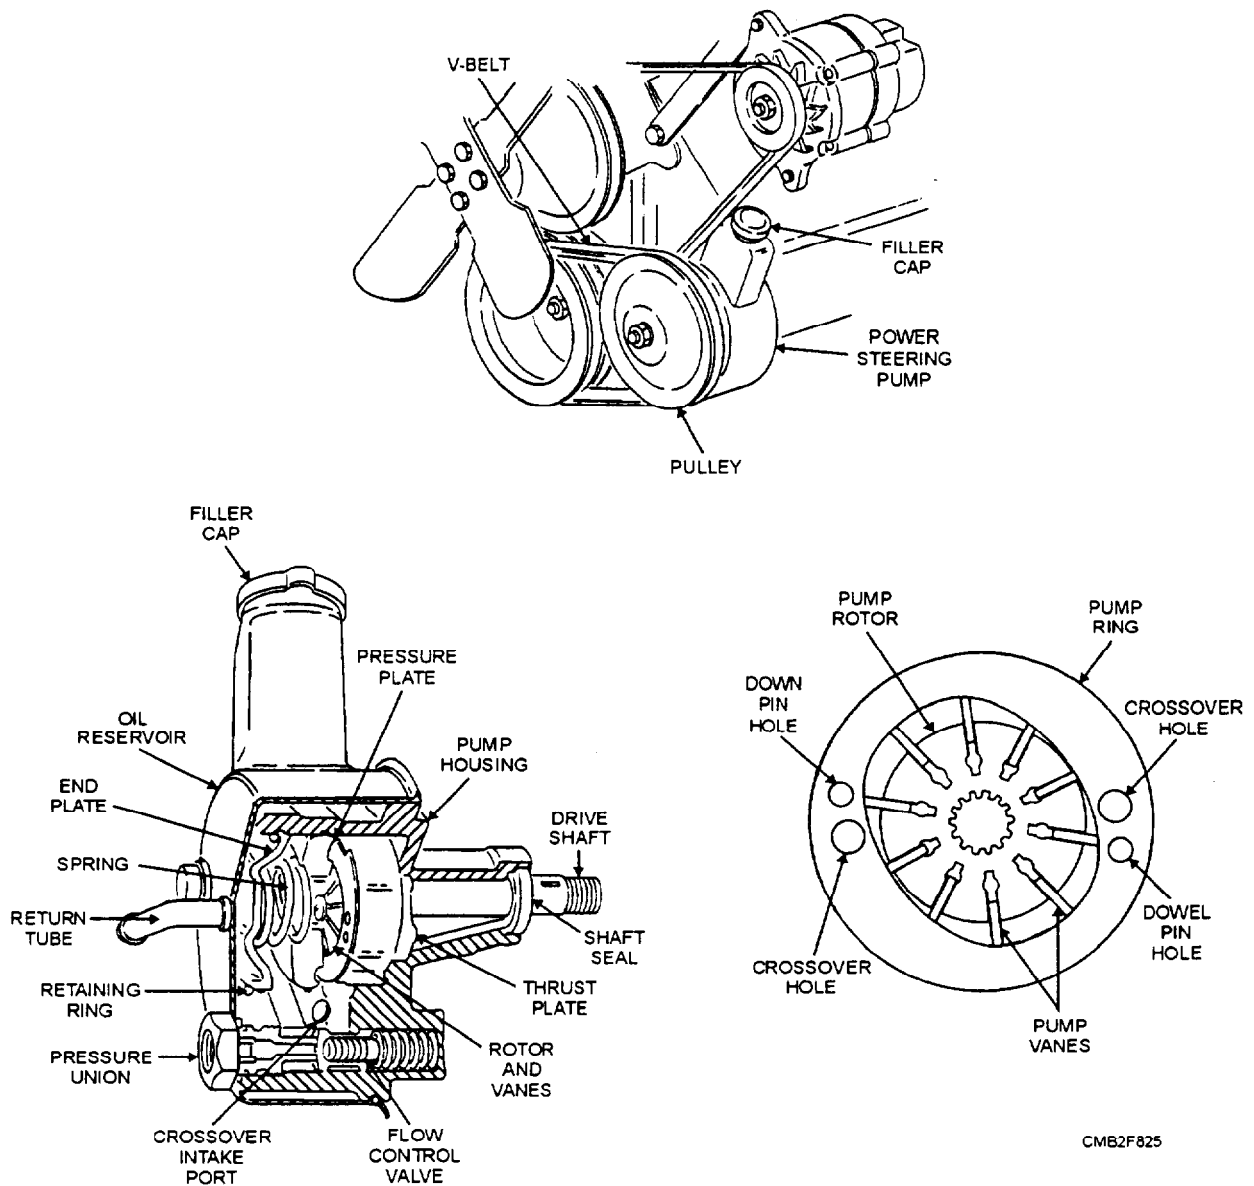

Figure 8-25.—Typical power steering pump.
- **POWER STEERING PUMP** (fig. 8-25)—The power steering pump is engine-driven and supplies hydraulic fluid under pressure to the other components